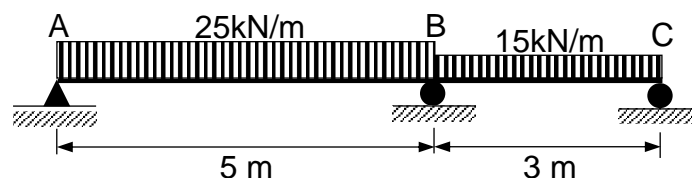

Figure 3/ Rajah 3
3. A two-span continuous concrete beam as shown in **Figure 3** is supporting uniformly distributed loads of 25 kN/m and 15 kN/m along span AB and BC, respectively. The continuous beam is supported by pin at A and by roller at B and C. Determine the reaction forces at all supports A, B and C of the continuous beam by the method of least work. The second moment of area of beams AB and BC are the same. The Young's modulus of the concrete beam is 40 GN/m².